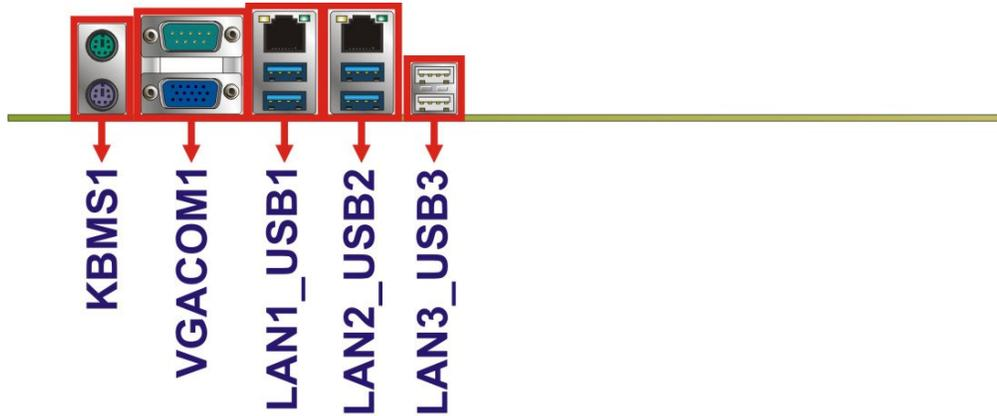

Figure 3-29: External Interface Connectors
- CN Location:** See **Figure 3-29**
CN Location: See **Figure 3-29**
CN Location:	See Figure 3-29